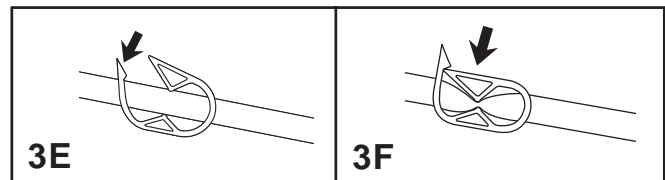

Figure 3E-3F-Hose Pinch Clamps
- Open the clamp by pushing the serrated end (fig. 3E).